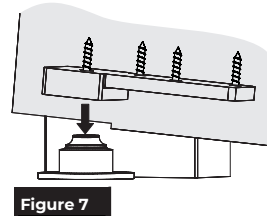

Figure 7
2. With door in open position about 90° to jamb, carefully fit door onto bottom pivot at a slight angle. (Figure 7)